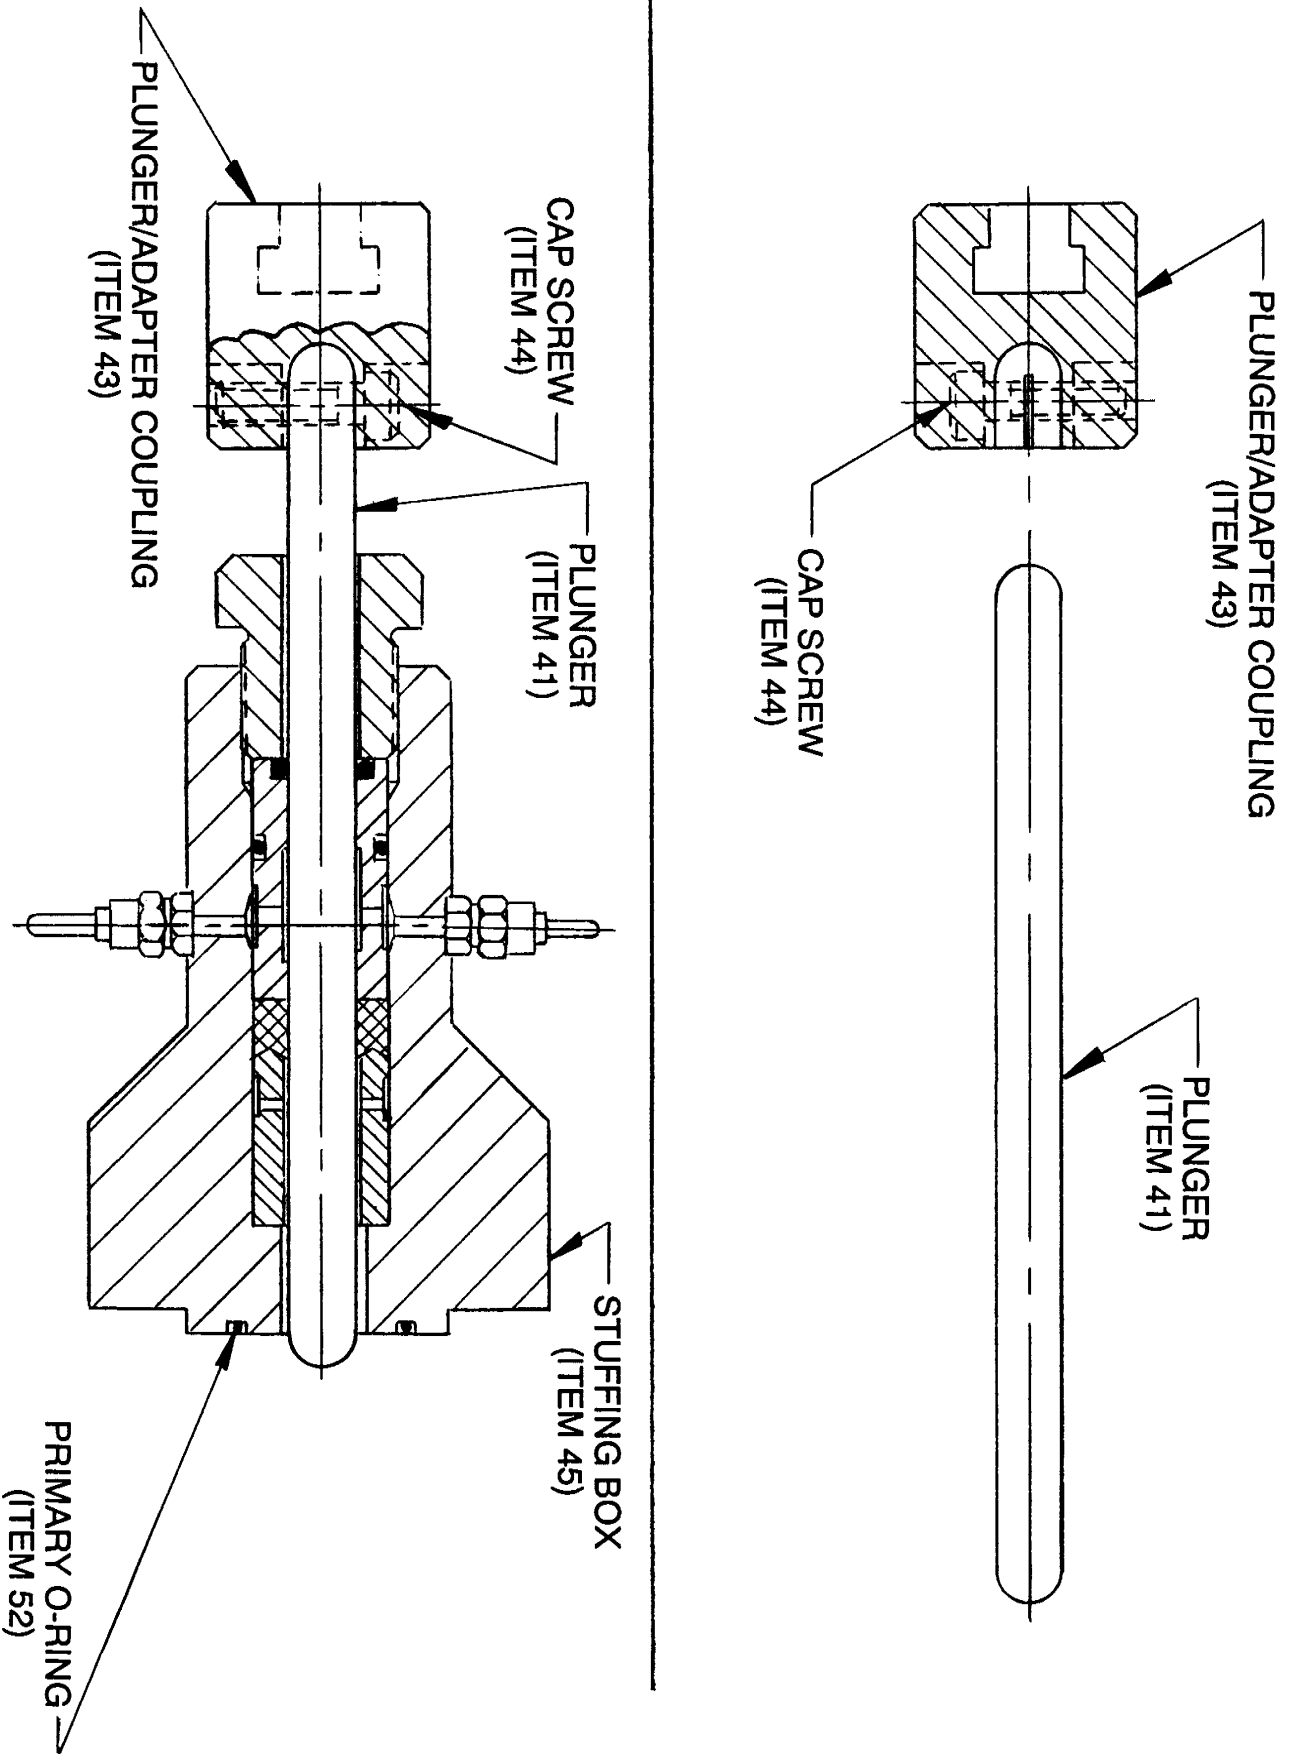

Figure 5
3. If the plunger (41) and the plunger adapter coupling (43) need to be assembled, take the plunger and slide it into the coupling, making sure that the plunger has completely bottomed into the coupling. Tighten the cap screws (44) securely, so that the plunger cannot be pulled free. Slide the plunger end into the back of the stuffing box, as shown in Figure 5.
4. Lay the stuffing box primary O-ring (52) into the front face seal groove. Coat O-ring with petroleum jelly to help it to stay in place while assembling to the cylinder.